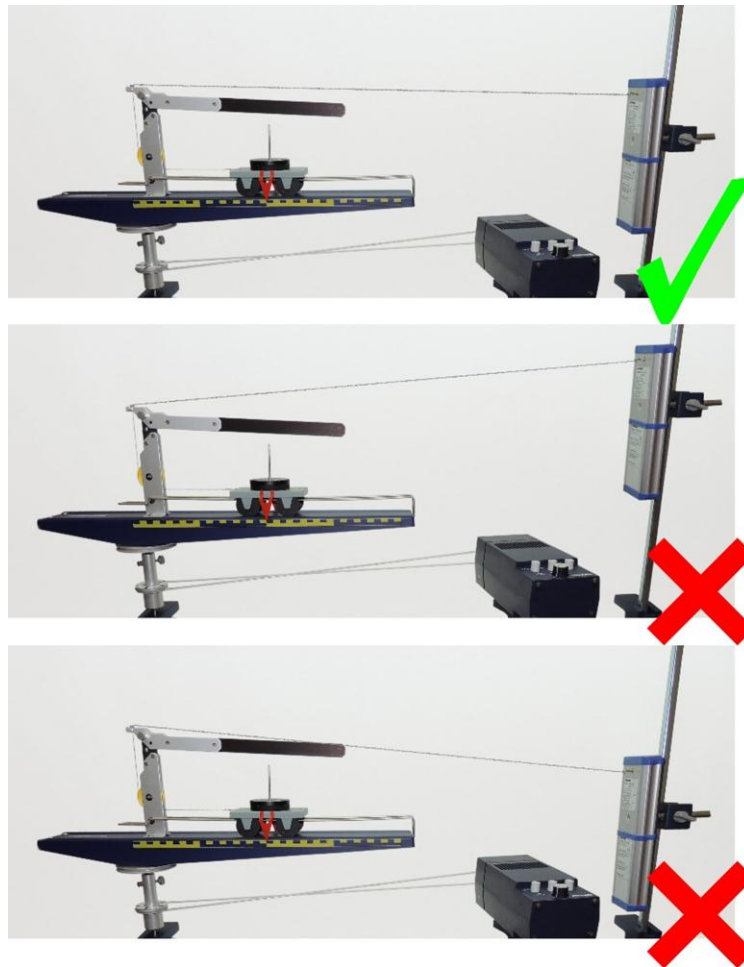

Figure 5.9: Correct and incorrect fishing line adjustment.
Make sure that the fishing line (3) connected to the force sensor hook (19) and passing through the eye (12) is horizontal (i.e. parallel to the cart track (2) and perpendicular to the force sensor (1)) as shown in Figure 5.9. Failing to adjust the fishing line correctly will result in measuring only a component of the force not the total force.